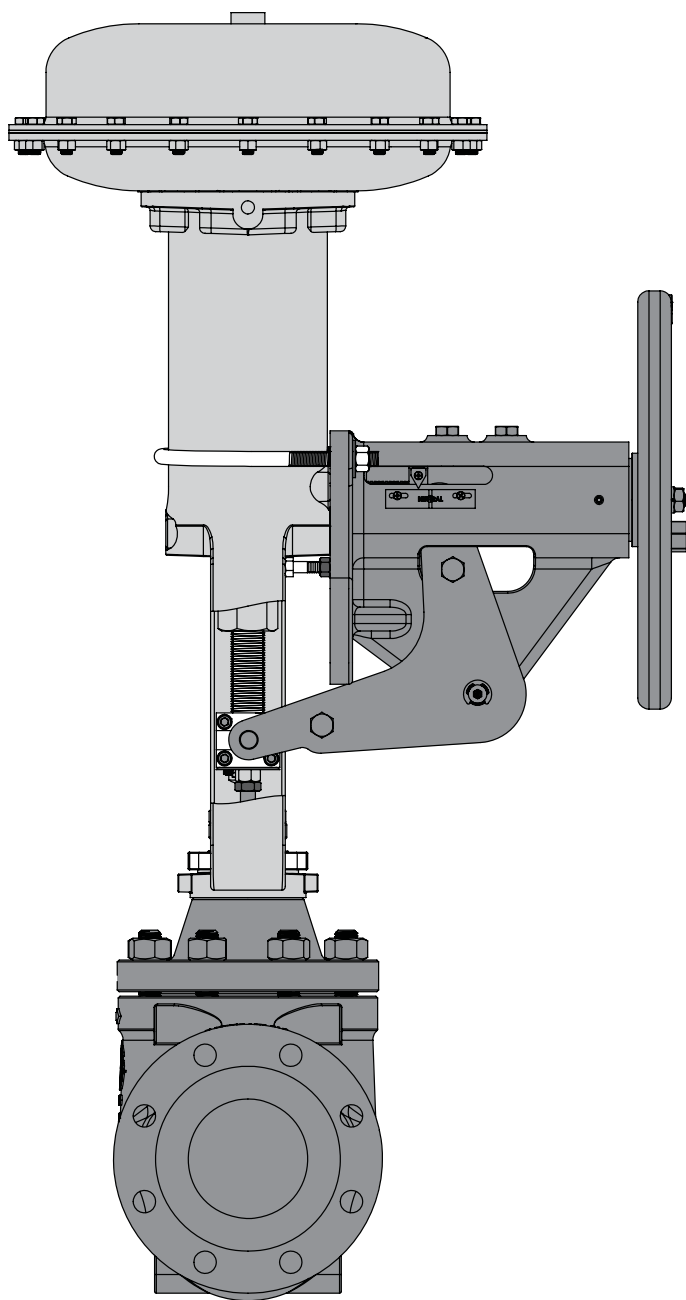

Figure 46 Properly Adjusted Jack Screws
- 9 Adjust the jack screws (Key 233) until the mounting plate of the handwheel body is parallel to the mounting pad of the actuator. When adjusted properly there should be no uneven gaps between the body of the handwheel and the yoke of the actuator. Refer to Figure 46.